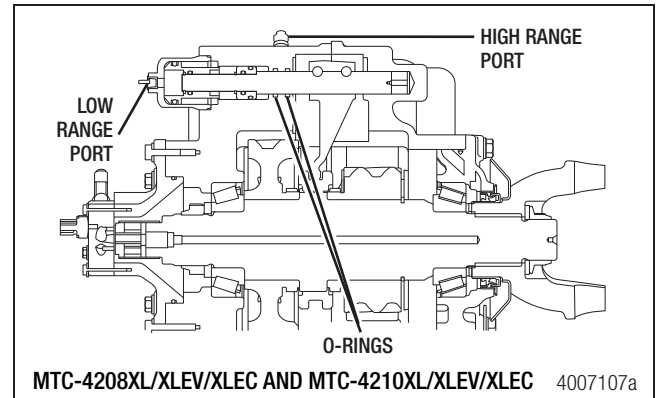

Figure 7.30
1. Lubricate and install the o-ring into the rear cover push rod journal. Use a light coat of lithium-based grease, Meritor specification O-668, prior to cover installation. Figure 7.30.